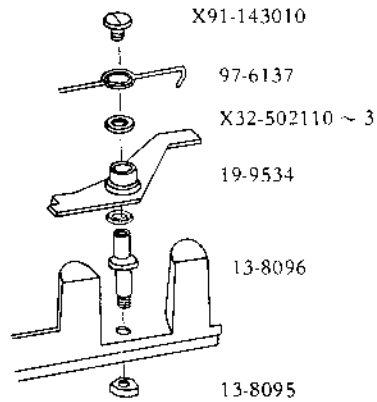

Fig. 14
- 1) Install the parts in the order shown in Fig. 14.